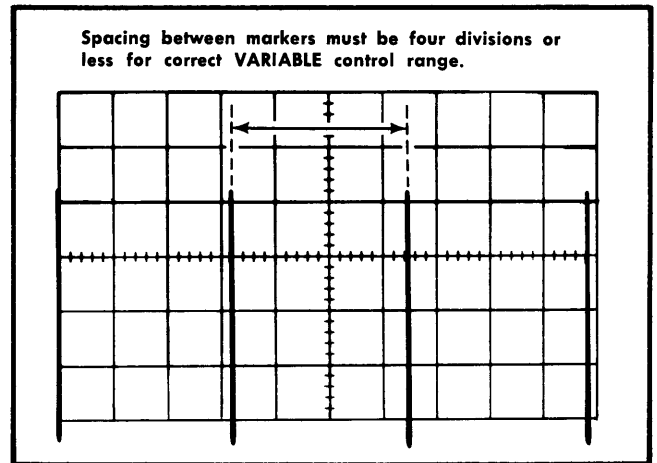

Fig. 5-35. Typical CRT display when checking A and B VARIABLE control range.
- e. CHECK—CRT display for four-division maximum spacing between markers (indicates adequate range for continuously variable sweep rates between the calibrated steps; see Fig. 5-35). UNCAL A OR B light must be on when A VARIABLE control is not in CAL position.
- d. CHECK—CRT display for four-division maximum spacing between markers (indicates adequate range for continuously variable sweep rate between the calibrated steps; see Fig. 5-35). UNCAL A OR B light must be on when B TIME/DIV VARIABLE control is not in CAL position.